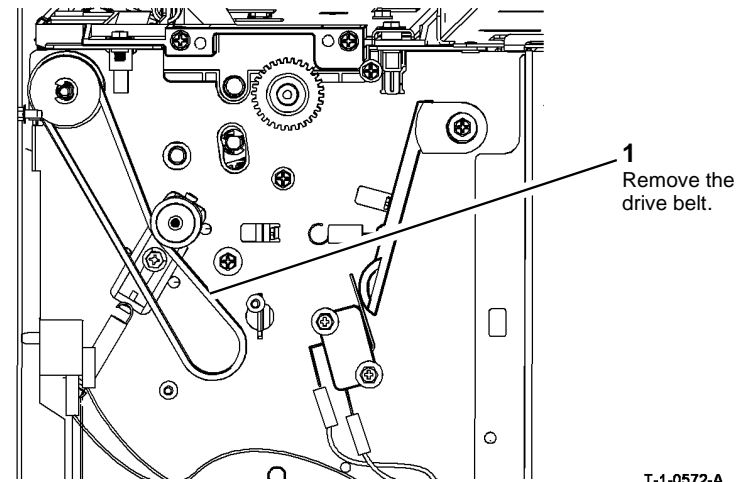

Figure 2 Drive belt removal
3. Remove the transport drive belt, Figure 2.